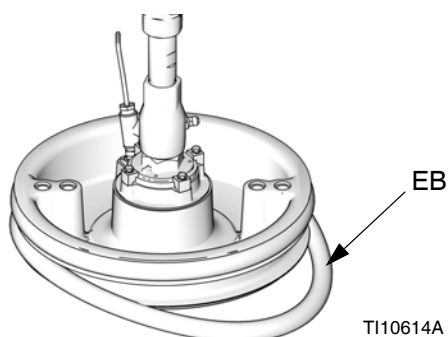

FIG. 19
1. Using a wooden or plastic tool to prevent damage to the wiper (EB), clean all material from seal grooves.
2. *Working from the bottom*, angle one wiper (EB) over back of platen. See FIG. 19.
3. Insert wiper (EB) in top groove and run front of wiper into groove.
4. Insert second wiper (EB) in lower groove and run front of wiper into groove.